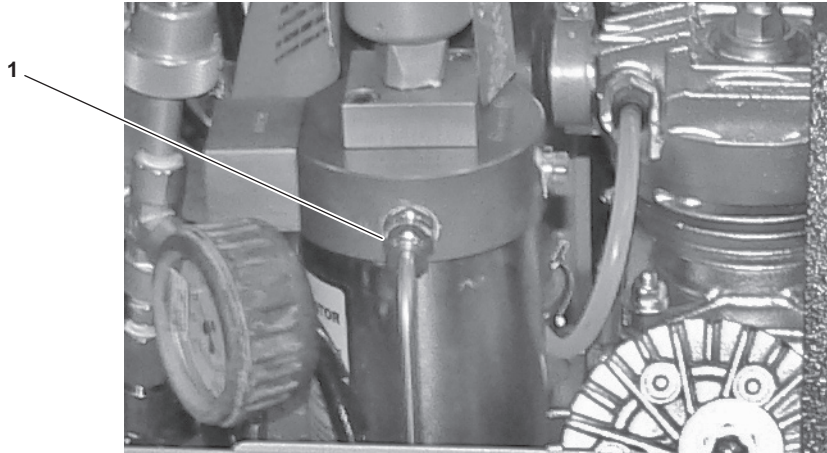
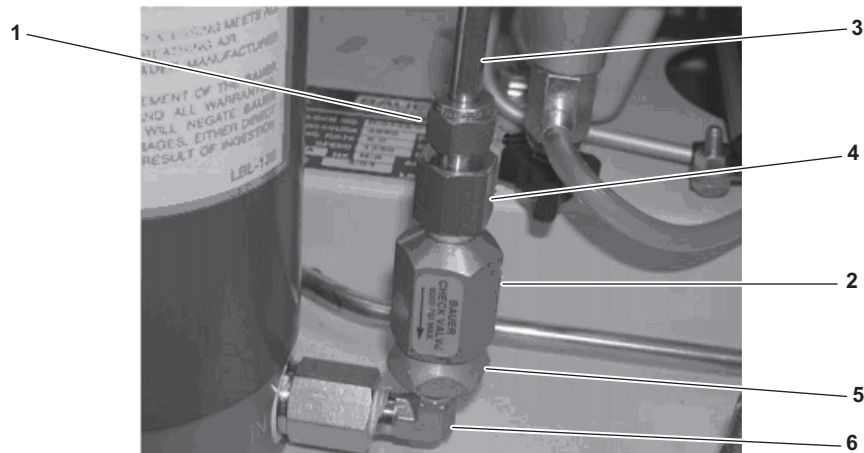

Figure 6-13. Flare Fitting on Line from Final Separator
Figure 6-14. Connecting Nut, P1 Purification Check Valve, and Fitting
- (1) Remove the CGA fittings on the fill hoses from the stowage couplings.
- (2) Loosen the flare fitting (figure 6-13, item 1) on the line coming from the final separator using a 5/8 inch wrench, turning CW.
- (3) Completely loosen the flare fitting (figure 6-14, item 1) on the line going into the check valve (figure 6-14, item 2) by using 5/8 inch wrench, turning CCW. The line (figure 6-14, item 3) coming from the final separator can now be turned out of the way.
- (4) Using a 1 inch wrench to hold the check valve (figure 6-14, item 2), use a 3/4 inch wrench to loosen and remove the flare fitting (figure 6-14, item 4), turning CCW.
- (5) Use a 1 inch wrench on the aluminum fitting (figure 6-14, item 5) below the check valve (figure 6-14, item 2) to loosen then remove it by turning CCW.
- (1) Thoroughly clean the male and female threads of the flare fitting (figure 6-13, item 1), check valve (figure 6-14, item 2), and elbow connection (figure 6-14, item 6), removing all previously applied anti-seize (Teflon[®]) tape. Do not allow anti-seize (Teflon[®]) tape particles to enter the valves.
- (2) Wrap anti-seize (Teflon[®]) tape around the male threads of all connections in a spiral CCW direction, starting at the second or third thread. Encircle the threads three times.
- (3) Use a 1 inch wrench to tighten the aluminum fitting (figure 6-14, item 5) and check valve (figure 6-14, item 2) on the elbow connection (figure 6-14, item 6). Turn the aluminum fitting CW until snug.
- (4) Ensure that the check valve (figure 6-14, item 2) is firmly attached to the aluminum fitting (figure 6-14, item 5) by using a 1 inch wrench to hold the aluminum fitting in place. Turn the check valve CW with a 1 inch wrench until snug.
- (5) Use a 1 inch wrench to hold check valve (figure 6-14, item 2) in place while using a 3/4 inch wrench to fasten the flare fitting (figure 6-14, item 4) to the check valve. Turn flare fitting CW until snug.
- (6) Position the line (figure 6-14, item 3) from the final separator to the check valve (figure 6-14, item 2) over the flare fitting (figure 6-14, item 4) and firmly seat.
- (7) Use a 3/4 inch wrench to hold the flare fitting (figure 6-14, item 4) in place while a using 5/8 inch wrench to connect the flare fitting (figure 6-14, item 1) from the final separator to the flare fitting on the check valve (figure 6-14, item 2). Turn CW until snug.
- (8) Using a 5/8 inch wrench, tighten the flare fitting (figure 6-13, item 1) to the final separator, turning CCW until snug.
- (9) Coil the hoses and install (CW) the CGA fitting of the fill hoses onto the stowage couplings carefully, taking care not to damage the threads.